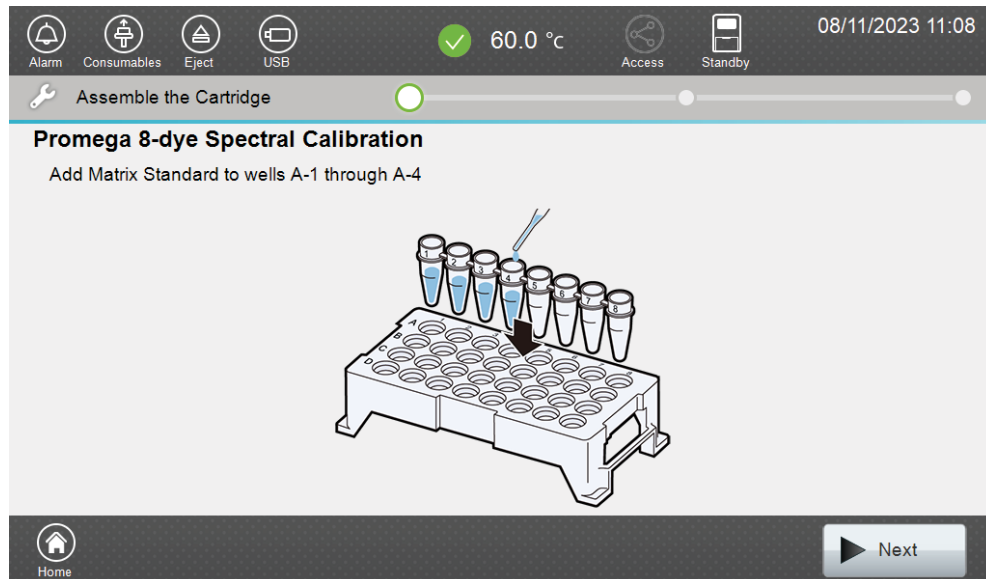

Figure 7. 'Assemble the Cartridge' screen.
4. Use the scroll arrows on the right-hand side of the 'Dye Set List' screen (Figure 6) to find the correct Dye Set/Application Type/Polymer combination from the displayed list. To perform a spectral calibration using the PowerPlex® 8C Matrix Standard on Polymer4, select **Promega 8-dye** with "Fragment" and "Polymer4" as application and polymer types, respectively, then select **Calibration**. The 'Assemble the Cartridge' screen will open (Figure 7).
5. Select **Next** on the 'Assemble the Cartridge' screen (Figure 7). A message window will open indicating that the autosampler is moving and telling the user to not open the door. In addition, the status indicator flashes green while the autosampler is moving. After autosampler movement is complete, the message window closes and the status indicator returns to a steady green.